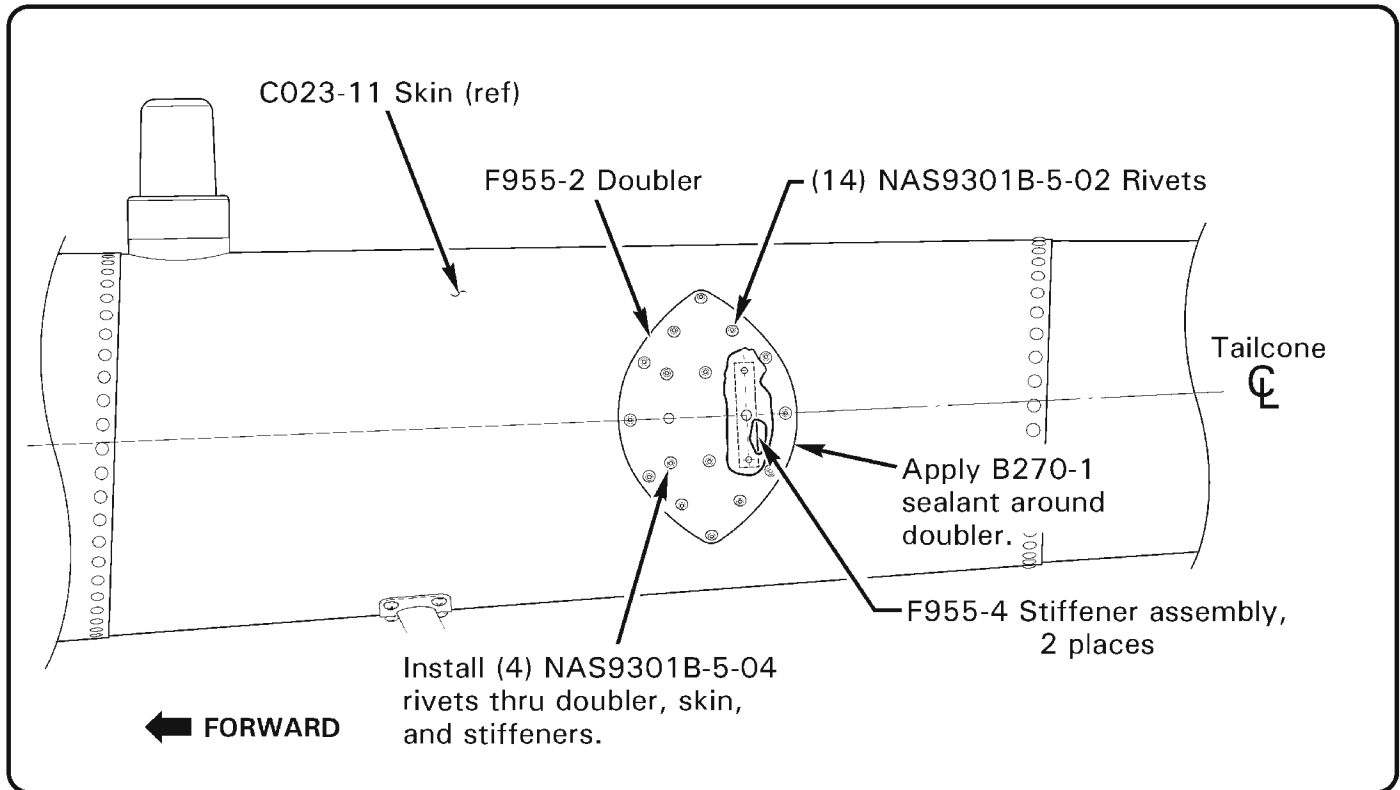
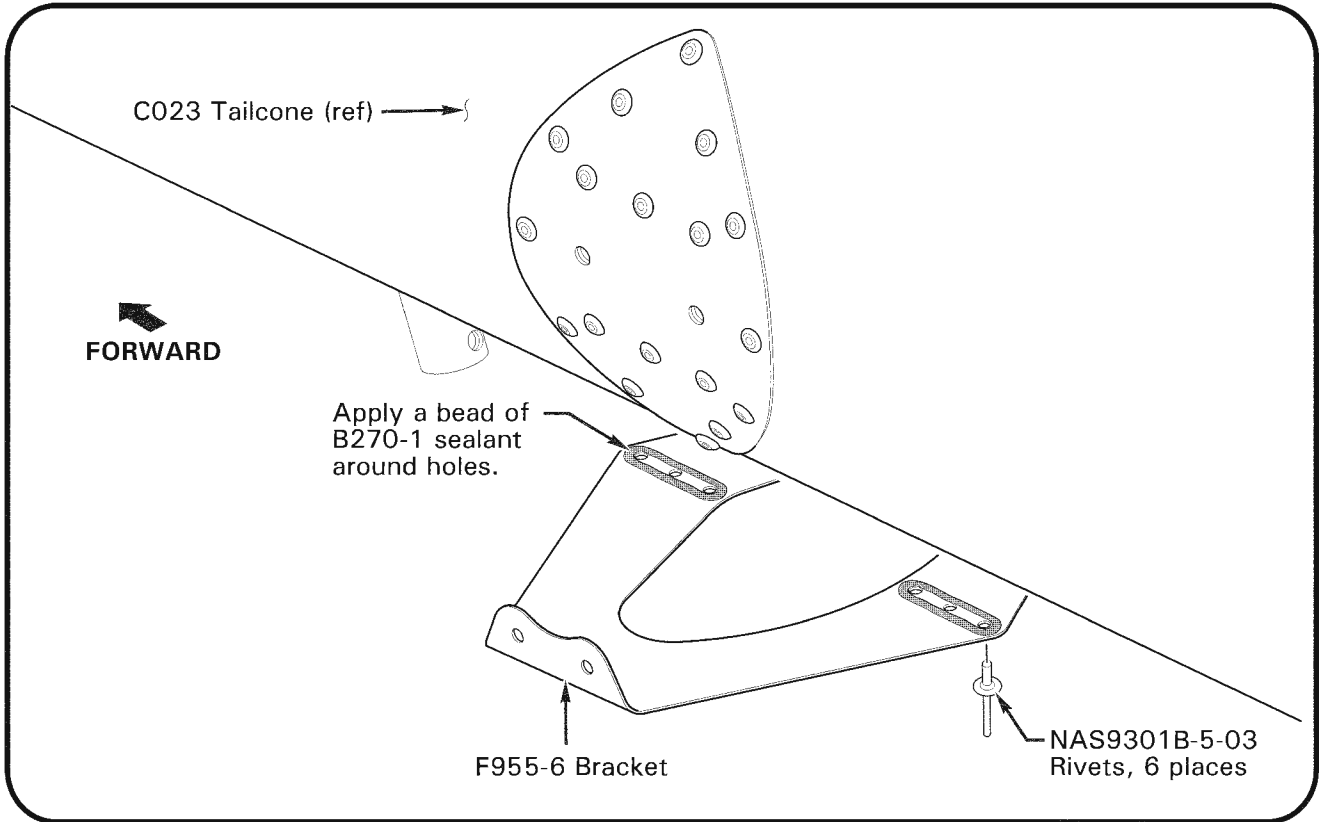

FIGURE 7 Doubler & stiffener assembly installation
FIGURE 10 F955-6 bracket installation
14. Refer to Figure 7. Install stiffeners and doubler to tailcone skin using (4) NAS9301B-5-04 rivets thru stiffeners, and (14) NAS9301B-5-02 rivets thru doublers, each side of tailcone as shown, remaining clecos one at a time as required. Inspect installed rivets per manufacturers' specifications at: CA-1015.pdf \(cherryaerospace.com\). Remove bolts & washers.
17. Refer to Figures 7 & 10. Apply B270-1 sealant around F955-2 doublers as shown in Figure 7. Apply a small bead of B270-1 sealant around the three rivet holes in F955-6 bracket (two places), as shown in Figure 10.